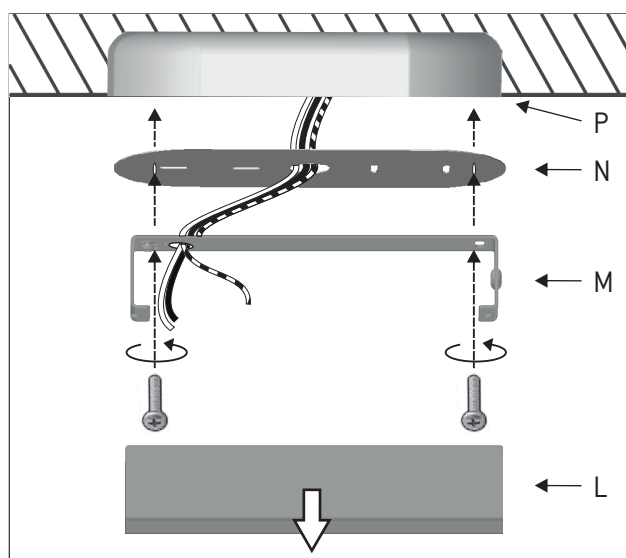

Figure 10
10 - Pull the canopy (L) down with force to remove the mounting bracket (M). Insert the main electrical cable through the central hole of the decorative disk (N) and through the mounting bracket (M). Fix them to the junction box. Figure 10.